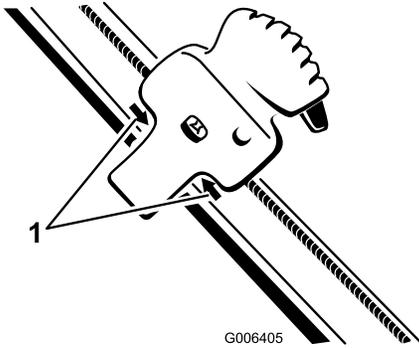

Figure 32
- Position the Quick Shoot control between the 2 arrows located on the right side of the upper handle (Figure 32).